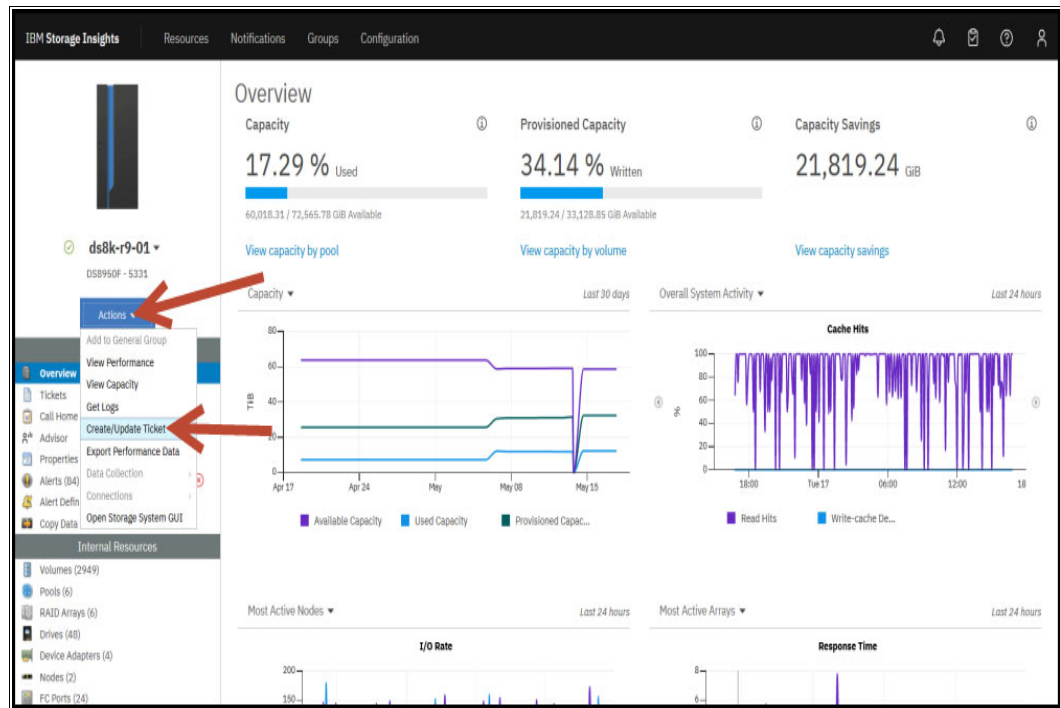

Figure 12-20 IBM Storage Insights: Overview window
1. Go to the storage system Overview page and select **Actions**, as shown in Figure 12-20. Select **Create/Update Ticket**.
1. Go to the Overview page for the storage system and select **Actions**, and then select **Create/Update Ticket**, as shown in Figure 12-20 on page 453.